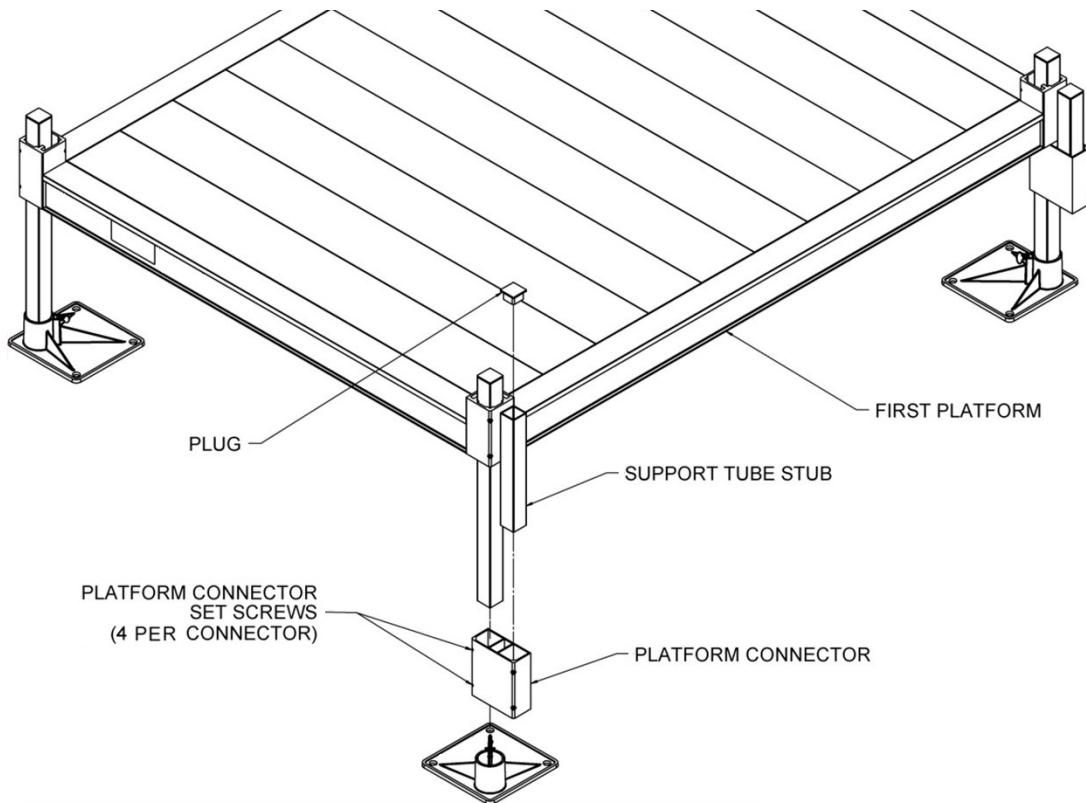

FIG. 2.6
2.3.3. Slide the platform connectors up until they contact the bottom of the platform and tighten the set screws securely (FIG. 2.6).
2.3.5. Install a plug in the top of each support tube stub (FIG. 2.6).